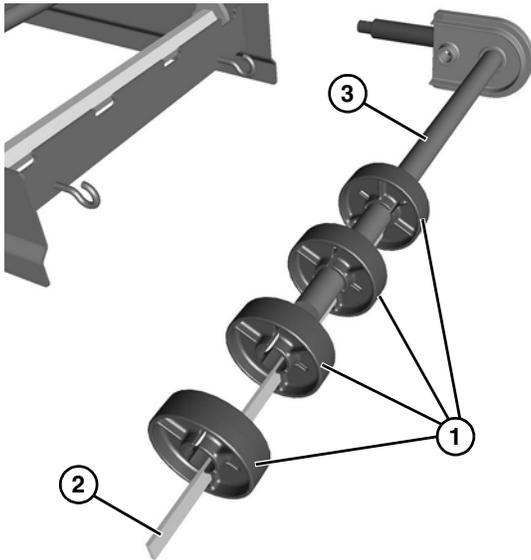

Figure 64
- Slide the pucks (Figure 64, item 1) and alignment bar (Figure 64, item 2) off the idler shaft (Figure 64, item 3).